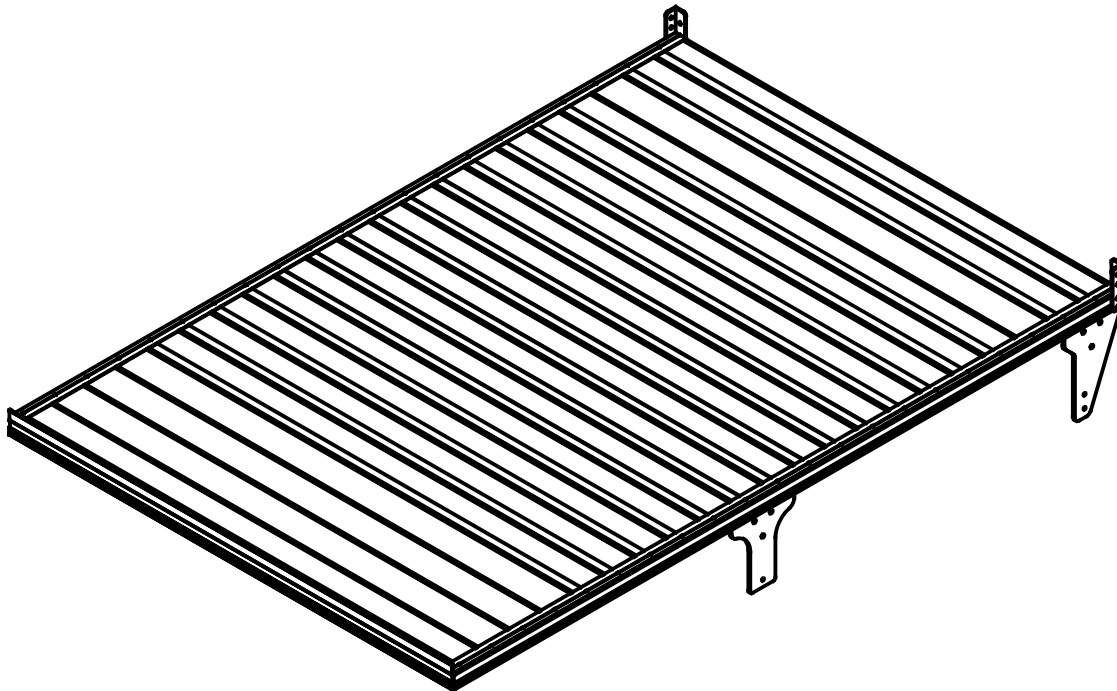

Figure 5 Common Cargo Tray
9. The frame of the cargo tray (Figure 5) is constructed of aluminium (6063 series) components and consists of: two side coamings, end coamings and flooring. The side and end coamings are secured with angle brackets to form a rectangular shape. The flooring is mounted within the frame. Two rails, under the flooring, provide the support for the under tray stowage module.